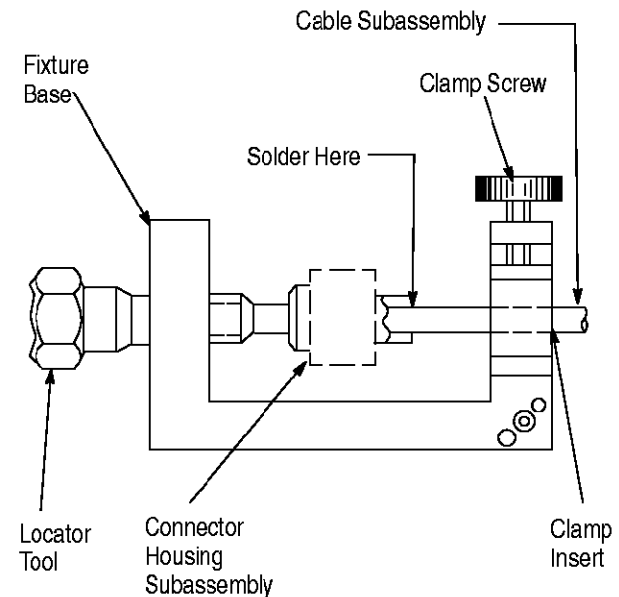

Figure 5
2. Place the loose assembly in the fixture base as shown in Figure 5.
5. With the connector subassembly firmly against the locator tool, solder the cable to the connector subassembly. See Figure 5.